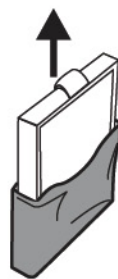

fig. 3
3. Remove the packaging of the new filter (fig. 3).